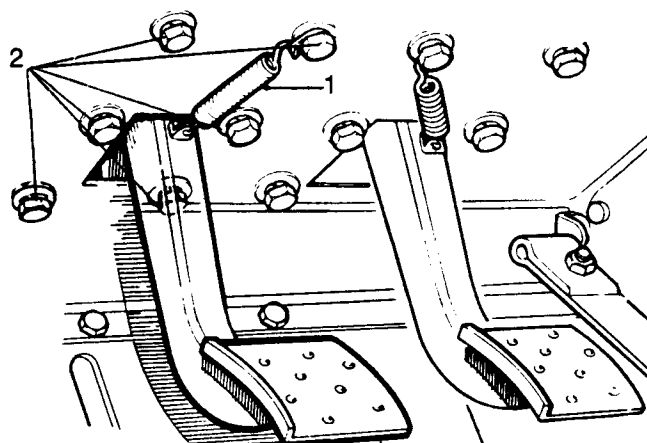

Fig H3.15
- (6) Refer to Fig H3.15. Fit the clutch pedal bracket complete with pedal and master cylinder and secure from inside cab with six fixing bolts (2).
- (7) Refit the clutch return spring (1).